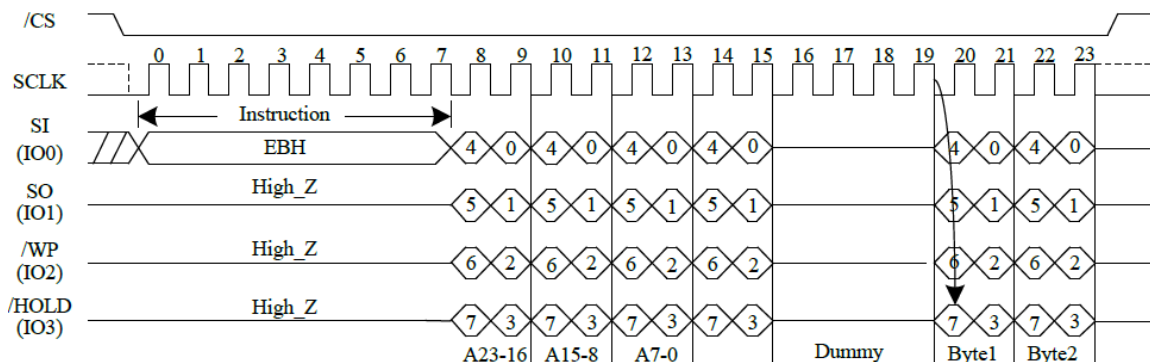
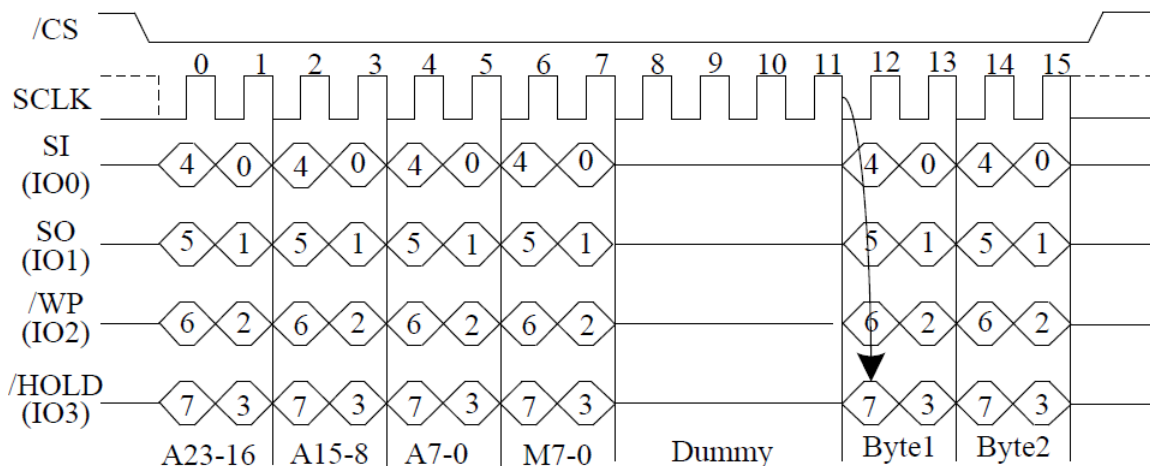

Figure 13. Quad I/O Fast Read Sequence Diagram (Initial command or previous (M5-4≠(1,0)))
Figure 14. Quad I/O Fast Read Sequence Diagram (Previous command set (M5-4)=(1,0)))
See Figure 13, the Quad I/O Fast Read instruction is similar to the Dual I/O Fast Read instruction but with the capability to input the 3-byte address (A23-0) and a “Continuous Read Mode” byte and 4-dummy clock 4-bit per clock by IO0, IO1, IO3, IO4, each bit being latched in during the rising edge of SCLK, then the memory contents are shifted out 4-bit per clock cycle from IO0, IO1, IO2, IO3. The first byte addressed can be at any location. The address is automatically incremented to the next higher address after each byte of data is shifted out. The Quad Enable bit (QE) of Status Register must be set to enable for the Quad I/O Fast read instruction.
The Quad I/O Fast Read instruction can further reduce instruction overhead through setting the “Continuous Read Mode” bits (M7-0) after the input Address bits (A23-0), as shown in Figure 13, If the “Continuous Read Mode” bits (M5-4) = (1,0), then the next Fast Read Quad I/O instruction(after /CS is raised and then lowered) does not require the EBH instruction code, The instruction sequence is shown in the followed Figure 14. If the “Continuous Read Mode” bits M5-4 do not equal to (1,0), the next instruction requires the first EBH instruction code, thus returning to normal operation. A “Continuous Read Mode” Reset command can also be used to reset (M5-4) before issuing normal command.